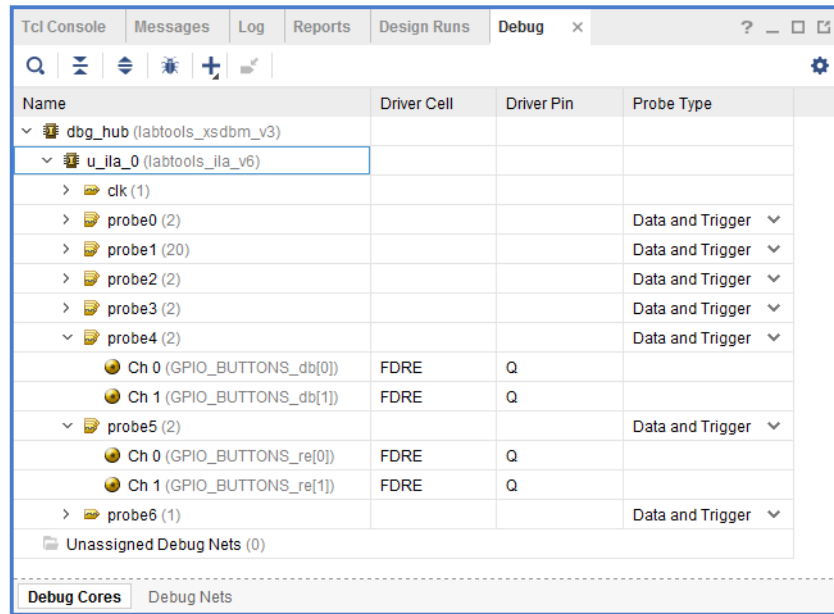

Figure 10-18: Debug Window Showing ILA Core and Debug Core Hub
**Debug** window that shows your ILA debug cores connected to the debug hub core (dbg\_hub) (see Figure 10-18).